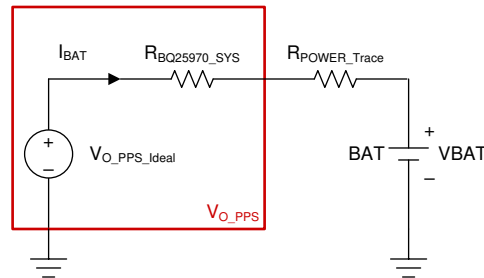

Figure 1-3. V_{O_PPS} Equivalent Circuitry
| Figure 1-3. V_{O_PPS} Equivalent Circuitry..... | 4 |
To create a charger using a Programmable Power Supply (PPS) protocol, such as the Power Delivery (PD) protocol, use an output voltage set slightly higher (such as ΔV) than 2 times the calculated voltage, as in Equation 7, ($V_{BAT} + 0.5 \times \Delta V_{BQ25970_SYS}$). To the BQ25970 device, it does not have a feedback loop for V_O , therefore, it is a kind of open loop power source, meaning that the BQ25970 device should be looked upon as a power source with non-zero internal resistance because its output voltage cannot be kept to a fixed value (for a power converter with feedback control loop, because the control loop can always keep the output as a fixed value whatever load current changes or not, meaning its internal resistance can be looked as 0, or an ideal power source). As Figure 1-3 shows, it is equivalent V_{O_PPS} circuitry for BQ25970 output, it can be viewed as an ideal power source with internal resistance: the internal resistance is $R_{BQ25970_SYS}$, the voltage of $V_{O_PPS_Ideal}$ equals to V_{O_PPS} from the PPS pre-set according to PPS protocol and all of impedance on the BQ25970 and PCB trace is ignored.